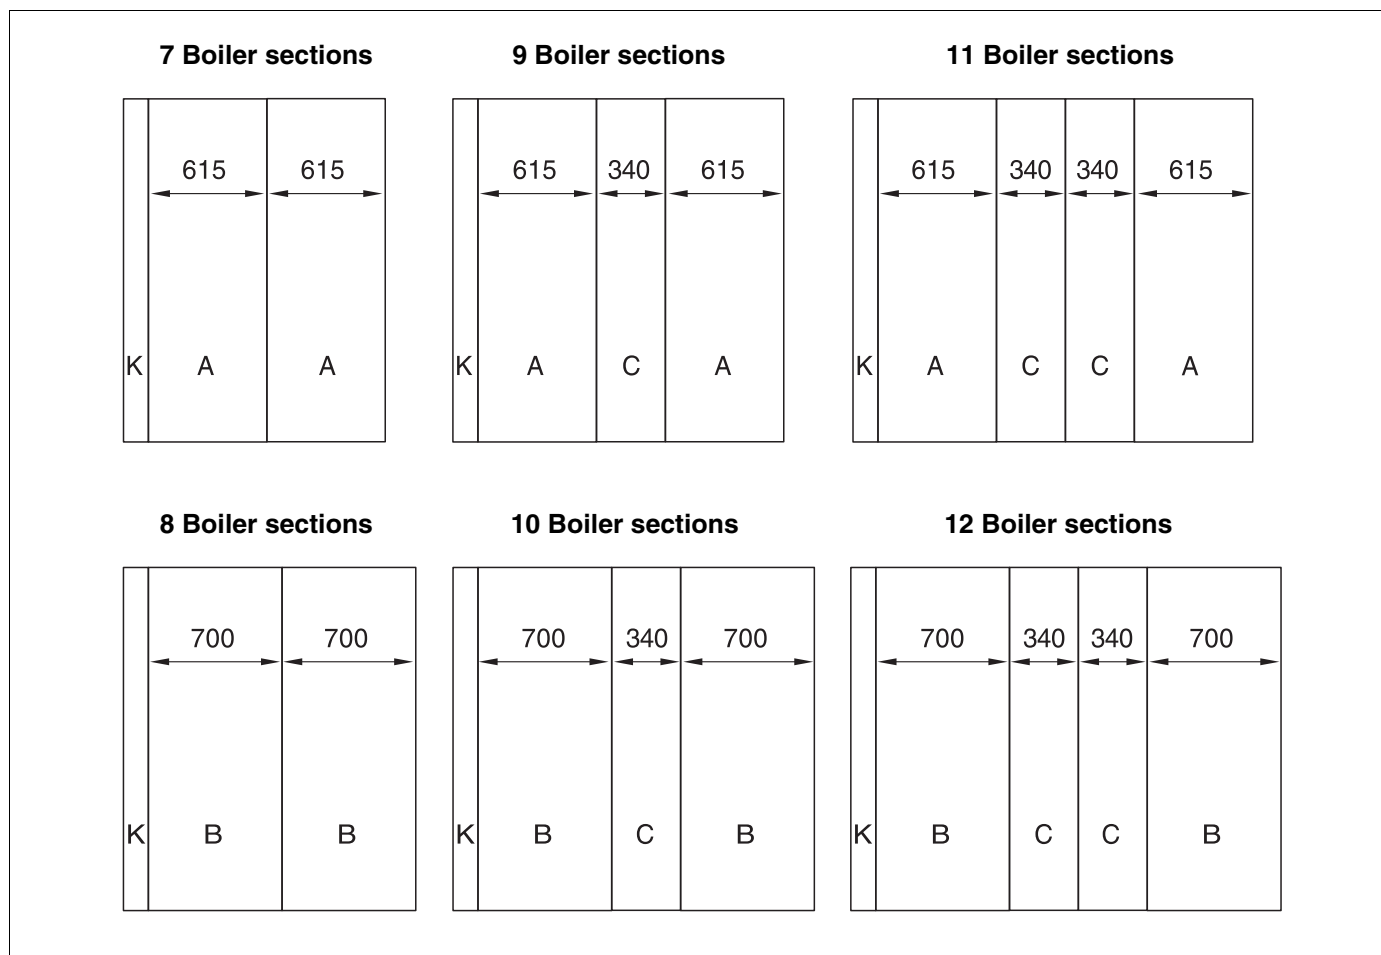

Fig. 48 Arrangement of side panels for the various boiler sizes (dimensions in mm)
- ▶ Fit all side panels as shown in the diagram (Fig. 48).